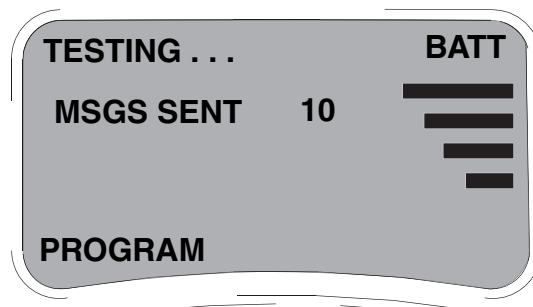

FIG. 5
1. Press the trigger switch to begin testing the signal quality between the tester and the Transceiver. See FIG. 5.